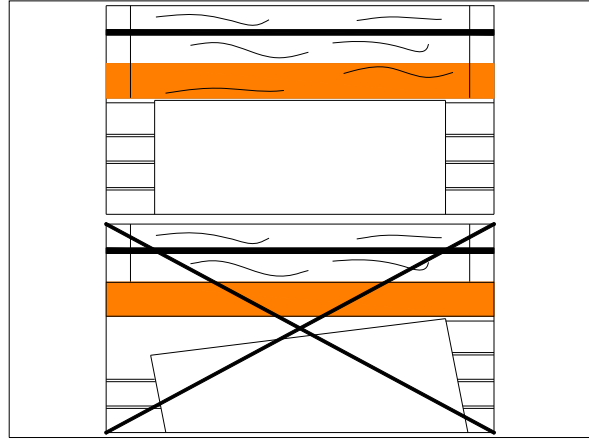

FIGURE 25
9. Align the leading edge of the item parallel to the heat roller nip (Fig. 25).